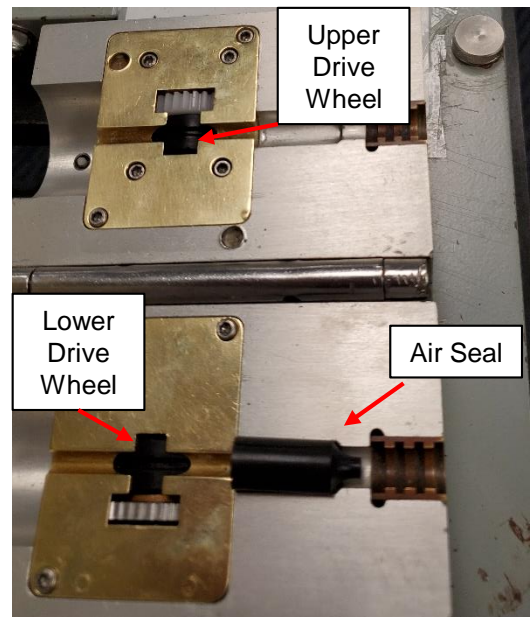

Figure 22
10.3 Select correct type / size Fiber Bundle Air Seal for fiber bundle to be installed and inspect for wear. There should be a 3mm Air Seal already installed in your Blowing Head. **See Fig. 22.**